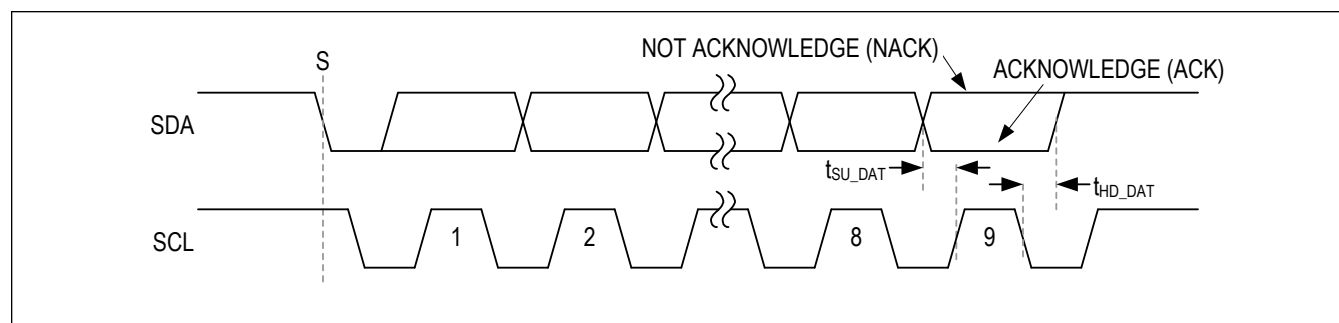

Figure 31. Acknowledge Bit
Both the I²C bus master and slave devices generate acknowledge bits when receiving data. The acknowledge bit is the last bit of each nine bit data packet. To generate an acknowledge (A), the receiving device must pull SDA low before the rising edge of the acknowledge-related clock pulse (ninth pulse) and keep it low during the high period of the clock pulse. See Figure 31. To generate a not-acknowledge (nA), the receiving device allows SDA to be pulled high before the rising edge of the acknowledge-related clock pulse and leaves it high during the high period of the clock pulse.